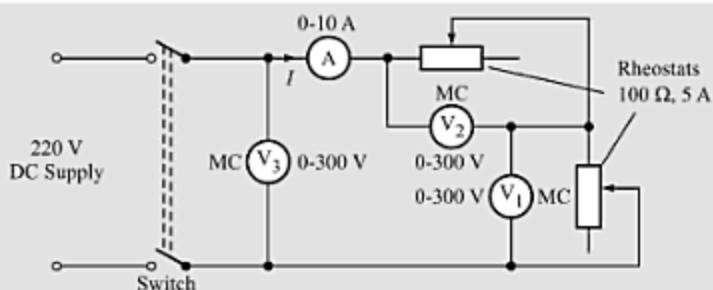

Fig. 3.84
**Circuit Diagram** The circuit diagram is shown in Fig. 3.84.
1. Make connections as given in Fig. 3.84.